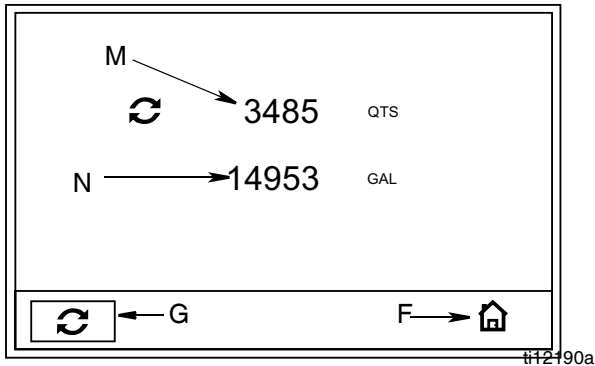

FIG. 26
## Totals Screen (FIG. 26)
See FIG. 26 for terms F, G, M - P
2. Press center, ENTER button to confirm selection. The Totals screen (FIG. 26) appears.
3. To reset Resettable Total field (M) to zero, use LEFT or RIGHT ARROW to move cursor over RESET button (G).